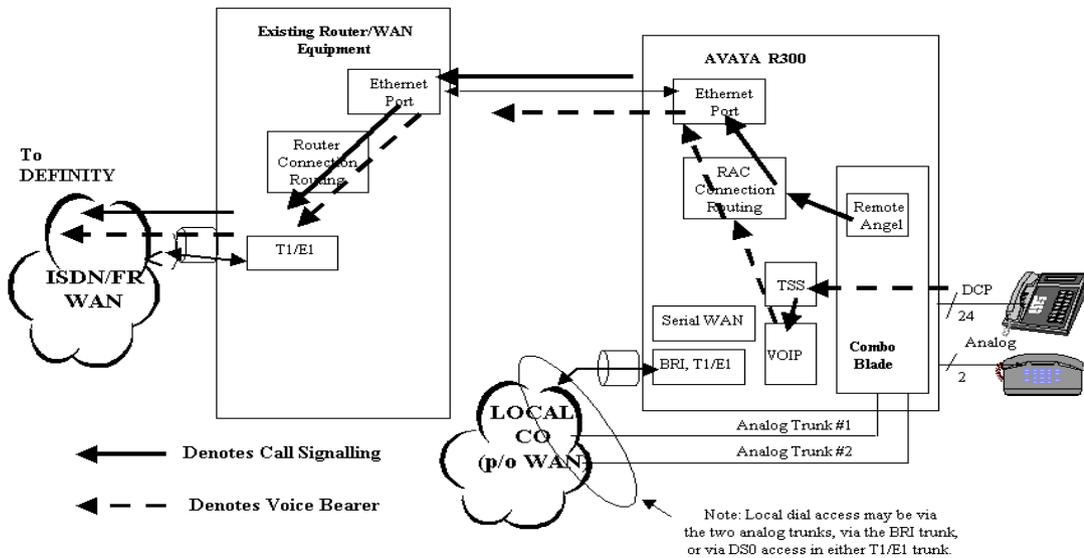

Figure 6. Avaya R300 Co-existing with WAN Access Concentrator
- Connect it via its Ethernet port over to the local IP LAN (see Figure 6 on page 10)